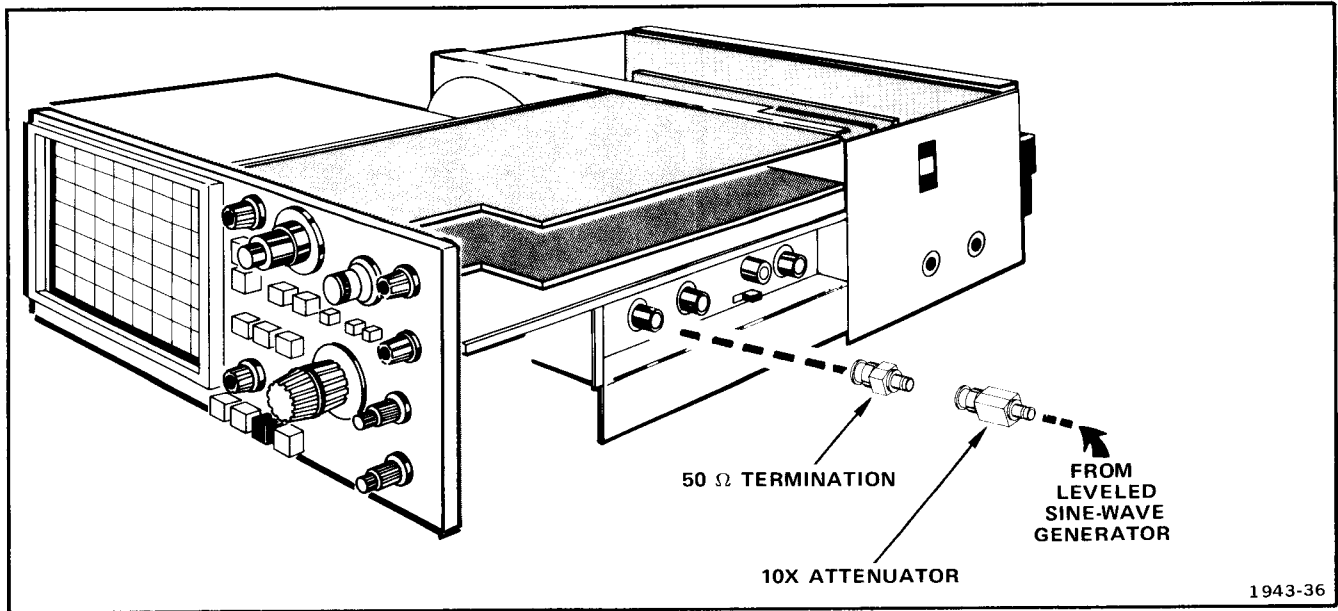

Fig. 6-12. Equipment setup.
a. Connect test equipment to CH 1 VERT INPUT connector as shown in Fig. 6-12.